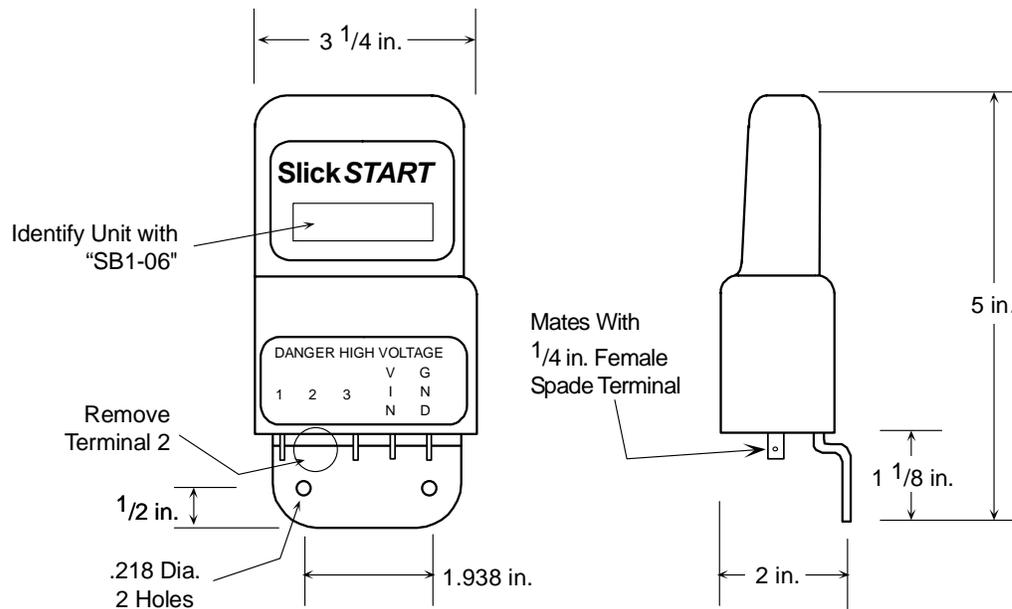

Figure 1
- If the SlickSTART™ unit is accessible, cut of the #2 pin as short as possible to prevent future use of this pin. See Figure 1. If necessary, remove the SS1001 from the firewall to complete this operation then re-install it.